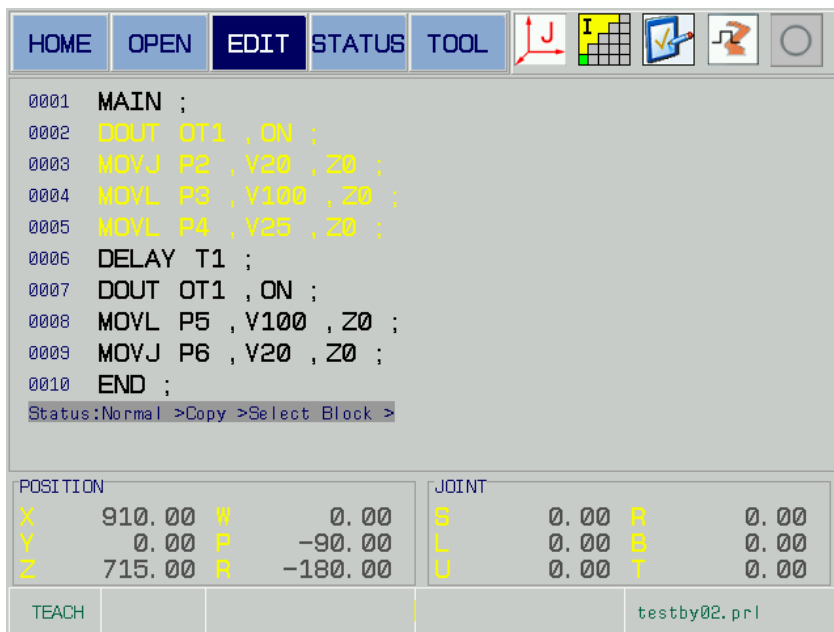

Fig. 5-43
2. Press the [COPY] button, in this case, the "Select Block" may prompt at the bottom of the interface; Select the desired copy area (from the 2nd line to the 5th) by up/down direction button; refer to Fig. 5-43.